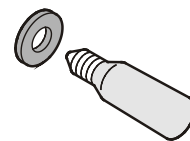

Figure 17
3. Remove the defective bulb. Make sure the seal (**Fig. 17**) is placed on the new bulb before installing it.